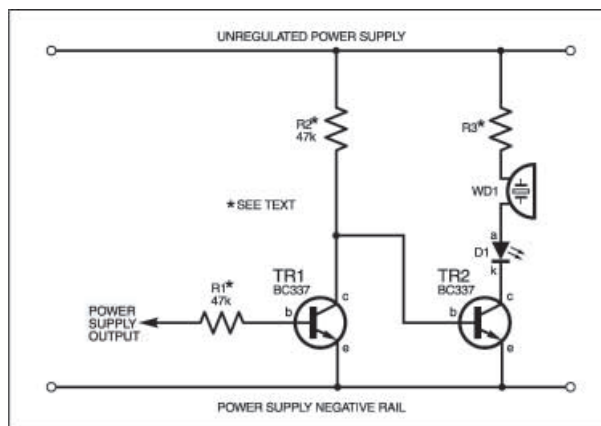

Fig.2. Circuit diagram for a Short Circuit Alarm.
**B**EING prone to accidentally shorting out my home-made 2V to 25V power supply, I decided to incorporate the alarm circuit shown in Fig.2 to warn me when it happens. Its operation is as follows: